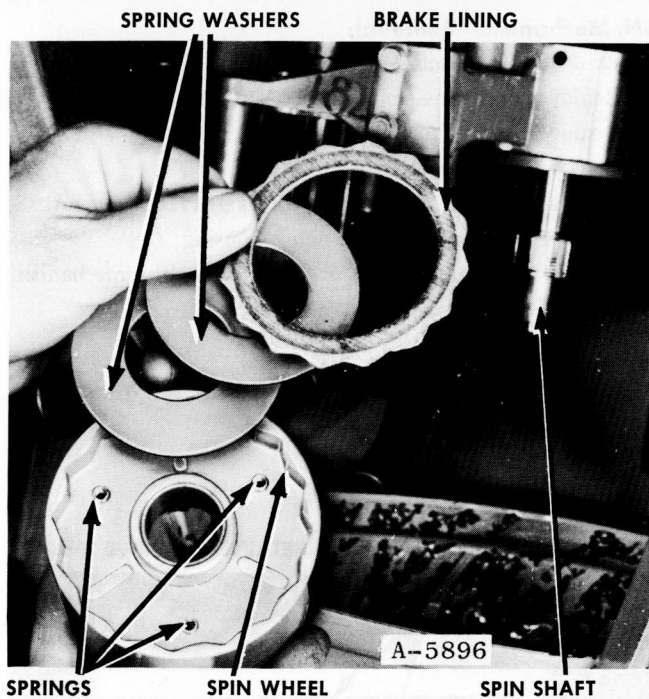

Figure 120
5. Remove the brake lining, two spring washers from inside the top of the spin wheel, Fig. 120.
1. Assemble the two spring washers in the top of the open wheel, the first concave down and the second concave up. Fig. 120.